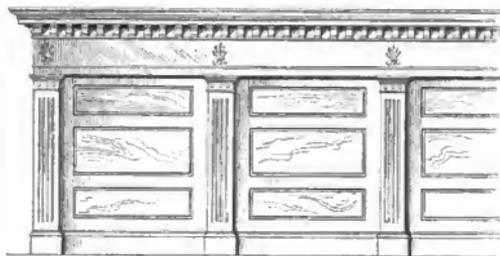
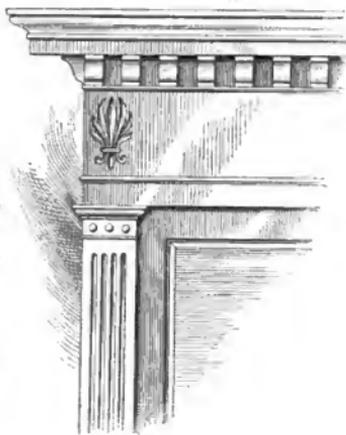
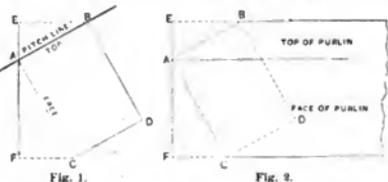

Fig. 1.—General Elevation of Counter.
Fig. 2.—Enlarged View of Corner, showing Detail of Ornamentation.
Fig. 1. Fig. 2.
G. B." of Southport, N. C. The counter can be made of any desired length and of any material, and in my opinion it would be suitable for any kind of a store. The shelving can be placed beneath the counter to suit the person for whom it is to be made. Fig. 1 shows a general elevation of the counter while Fig. 2 is an enlarged view of the corner showing detail of ornamentation. There is probably no part of the counter except the ornamentation shown on the frieze which could not be worked out by any good mechanic, and the ornament is in fact of small account, although it tends to somewhat relieve the monotony of the extended surface.
may be correct and may be satisfactory to "Learner" and perhaps to other readers of the paper, but I venture to say that not one carpenter in a thousand will be able to comprehend the methods presented, or to lay out the work by them. I would like, therefore, to offer my method for doing such work, and which, by the way, is fully illustrated and explained in "Progressive Carpentry," and from which every kind of frame work can be fitted perfectly, whatever may be its form and position. Referring to the sketches, make a section of the purlin full size and the exact shape and position it is to be placed, as shown in Fig. 1. Draw a vertical line, E F, touching the corner of the top and face at A. Now square across the top of the face of the purlin, near the end; take the distance from E to B of Fig. 1 and set it off on the back corner on the top E B of Fig. 2. Mark A B in Fig. 2. Then take the distance F C of Fig 1 and set it off on the bottom corner of the face, Fig. 2, and mark A C. Cut to the marks A B and A C of Fig. 2. If it is desired to mark the other two sides of the purlin, use the same bevels—the face bevel for the back and the top bevel for the bottom, and cut by the dotted lines to D of Fig. 2.